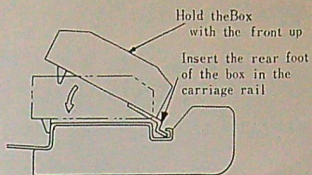

Fig. 11
- b. The metal foot of the accessory box must be fitted into the rail of the needle bed. (See Fig. 11)